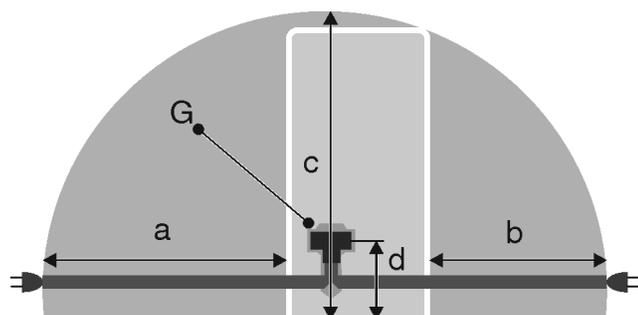

Fig. 53 *
- ▶ Insert the appliance plug *Fig. 53 (G)* on the rear side of the appliance. Ensure that they latch into place correctly.
- The socket is not located behind the appliance but in areas a or b *Fig. 53 (a, b, c)*.